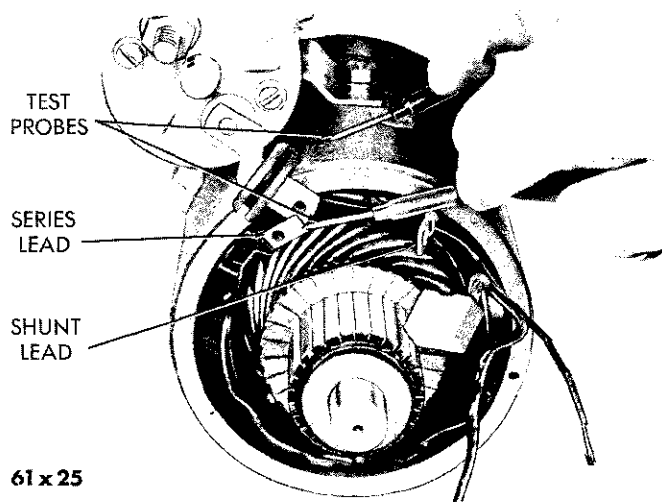

Fig. 10—Testing Series Field Coil for Ground
(5) Touch one probe of test lamp to series field coil lead and the other probe to the field frame (Fig. 10). The lamp should not light.